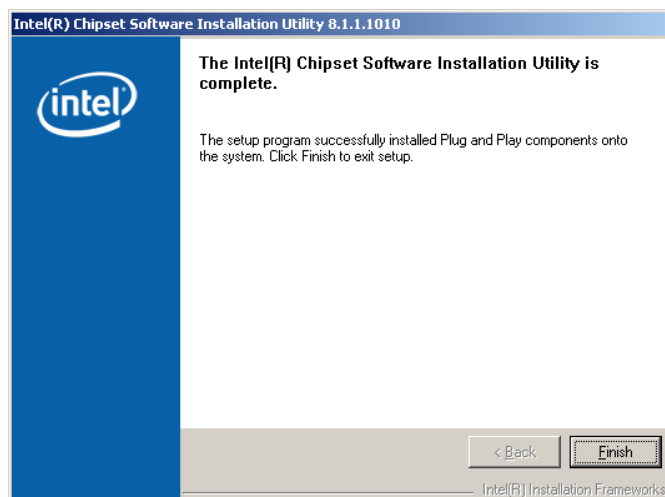

Figure 7-8: Chipset Driver Installation Complete
Step 17: After the driver installation process is complete, a confirmation screen appears (Figure 7-8).